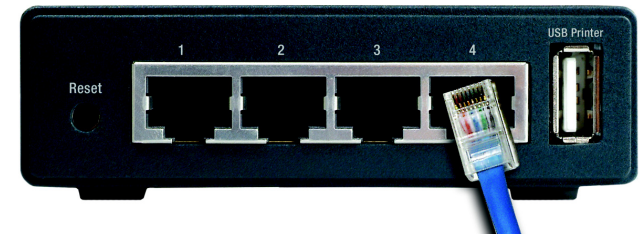

Figure 3-1: Connecting to the LAN Port
1. Plug one end of the Ethernet network cable into one of the PrintServer's LAN Ports (1-4). (See Figure 3-1.)